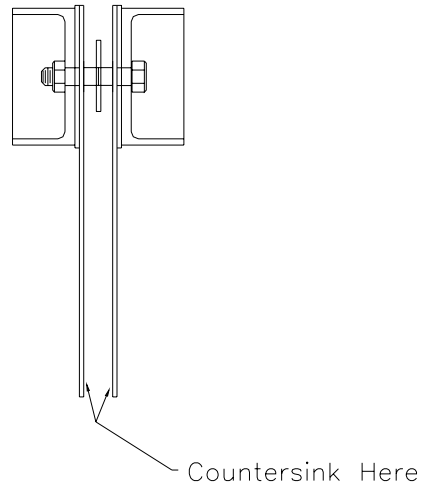

Figure 20.7.2
- 6) Countersink the two inside fuselage torque tube horns to allow a 1/4" countersunk bolt (AN509-416-R-16). Figure 20.7.2.